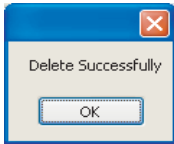

Fig.4-25
- c、 Delete wire controller: Select an existing wire controller (as above method), and click “Delete”, if there is no outdoor module controlled by any wire controller (see Fig. 4-25), the one could be deleted; if there are outdoor modules controlled by wire controller (see Fig. 4-26), a failed delete message box would pop up (see Fig. 4-27). As long as delete all modules under connect the wire controller, the wire controller could be deleted.